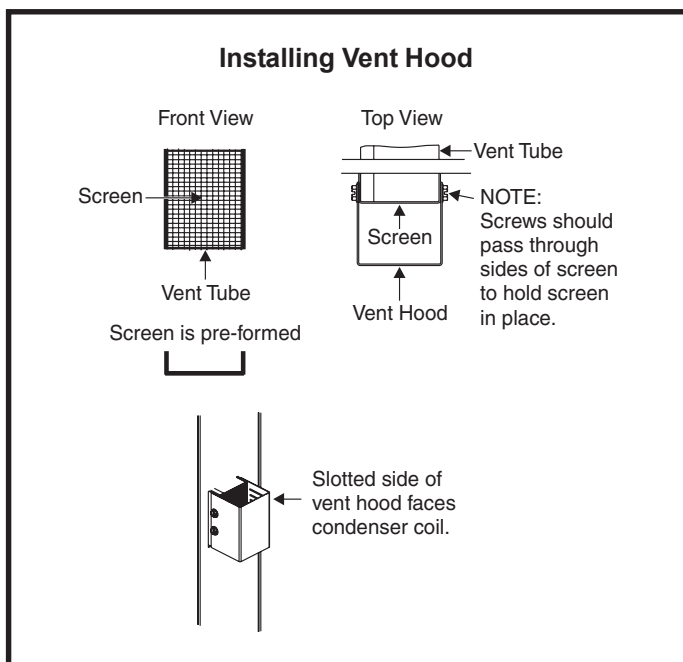

Figure 4
1. Insert the vent screen into the vent tube so that the screen is flush with the end of the tube, as shown in Figure 4.